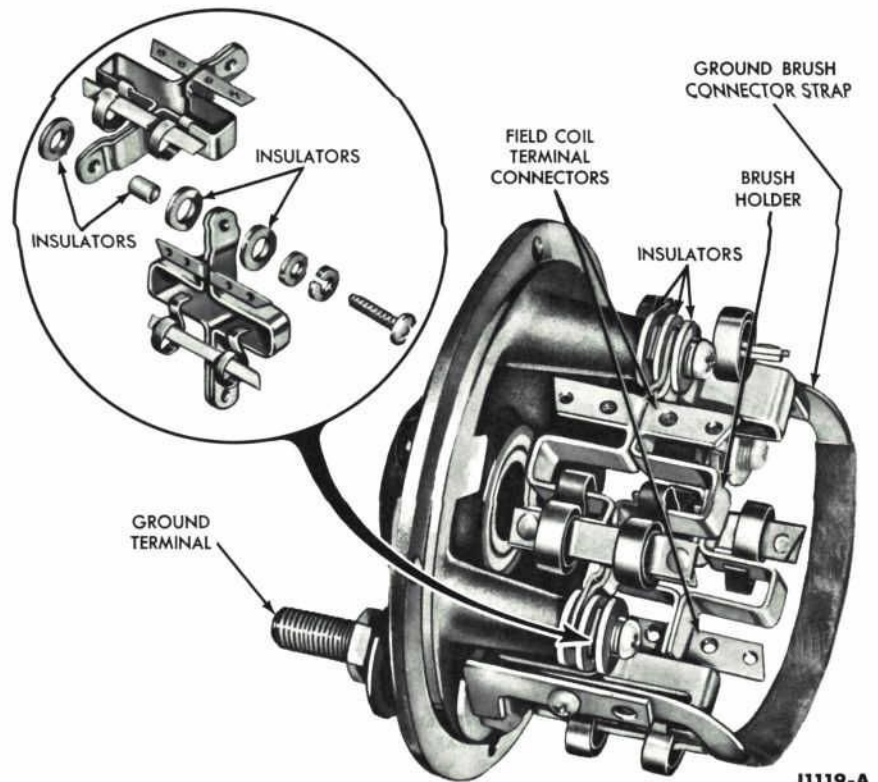

FIG. 58—Brush End Plate Assembly
2. Install the brush holders and the end terminal on the brush end plate (Fig. 58). Temporarily install, with a screw in each end, the brush connector strap (Fig. 57). All four brush holders are insulated from the brush end plate and from each other.